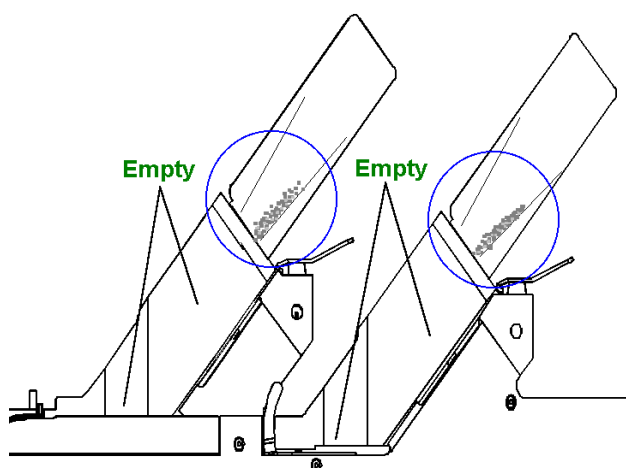

FIGURE 5.2.1.2
**TIP:** Recognition (see figure 5.2.1.2):